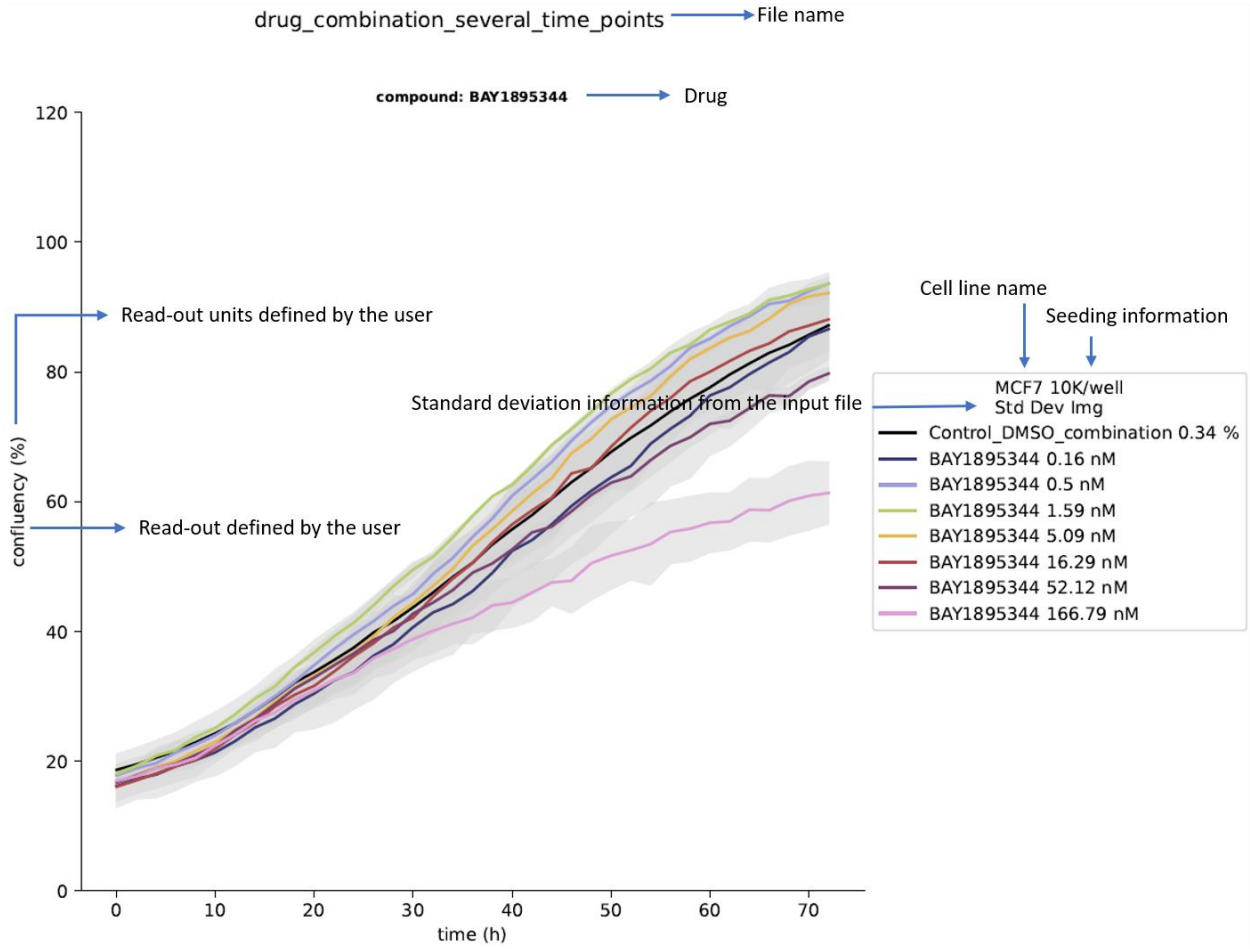

Figure 27: XY-plot example of raw data regarding to all dosage tested of BAY1895344. Y-axis is the read-out provided by the user and on the X-axis is time.
- Grouped all dosage for a certain drug Figure 27.